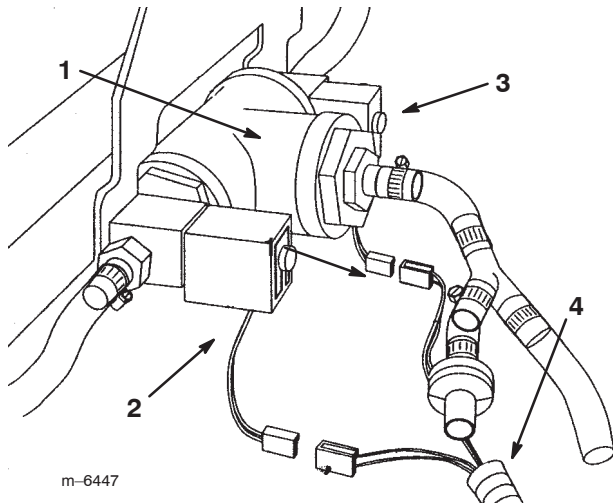

Figure 30
9. Locate the wiring harness connector furnished with the vehicle for the foam marker boom solenoid at the center section of the boom (Fig. 30).
10. Plug the harness connectors into the boom solenoids at the mixer tee assembly. Plug the connector with the blue wire to the right solenoid and plug the connector with the yellow wire to the left solenoid (Fig. 30).